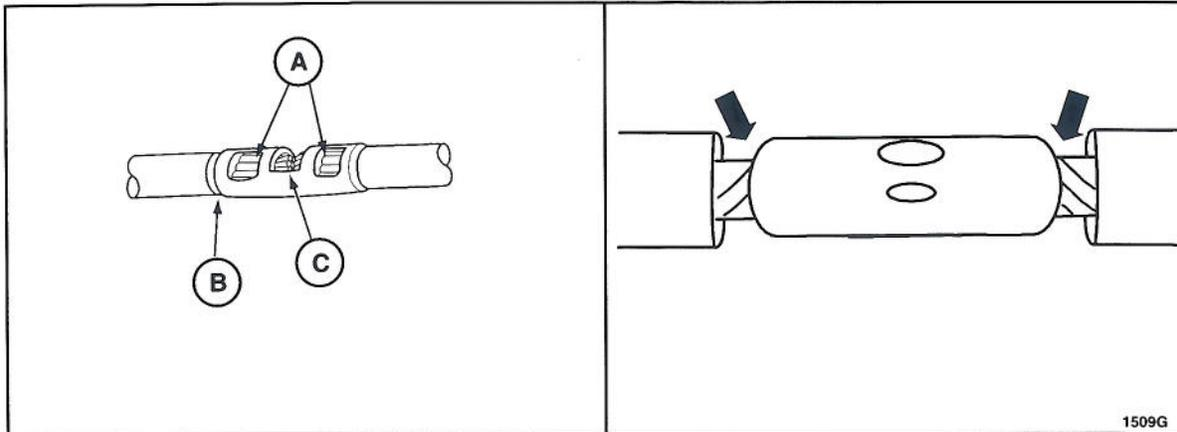

FIGURE 6
11. Check for acceptable crimp. See Figure 6.
12. Apply lead free electrical solder to each end of the wire splice connector to apply solder to the wires. See Figure 6.